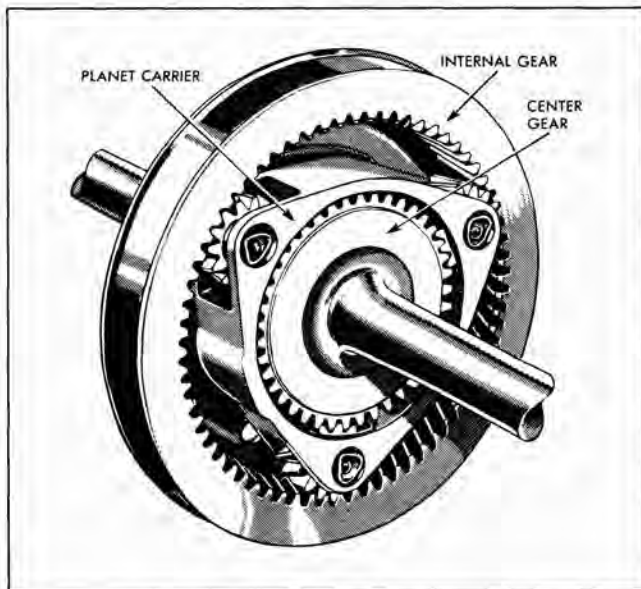

Fig. 4 Planetary Gears
- a. One method of obtaining speed reduction (power multiplication) is to hold the internal gear stationary while power is applied to the center gear (Fig. 4). As the center gear turns, the planet pinion gears, which are in mesh with it, rotate on their respective pins. Since they are also in mesh with the stationary internal gear, they must "rotate around" inside the internal gear, carrying the planet carrier with them in the same direction of rotation as the center gear. The planet carrier then rotates at a speed less than that of the center gear, and the planetary gear train functions as a power-increasing, speed-reducing unit.